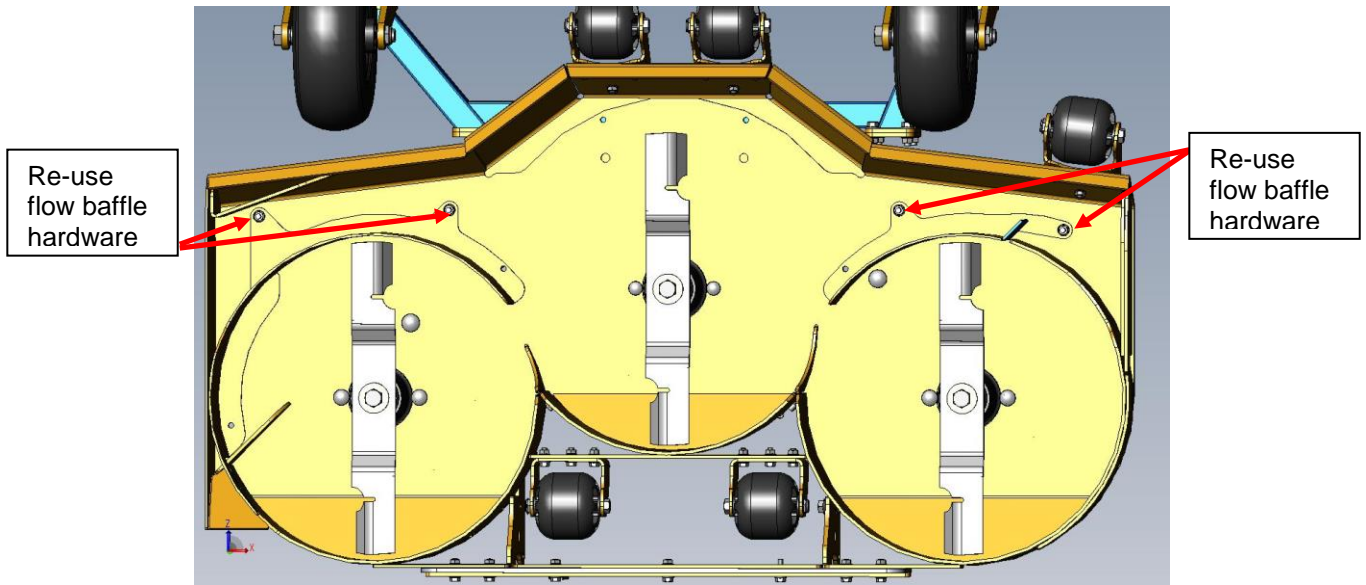

Figure 1
- 5) Install the Trim weldment and Discharge weldment first. (Fig.1) (Do not fully tighten hardware at this time)